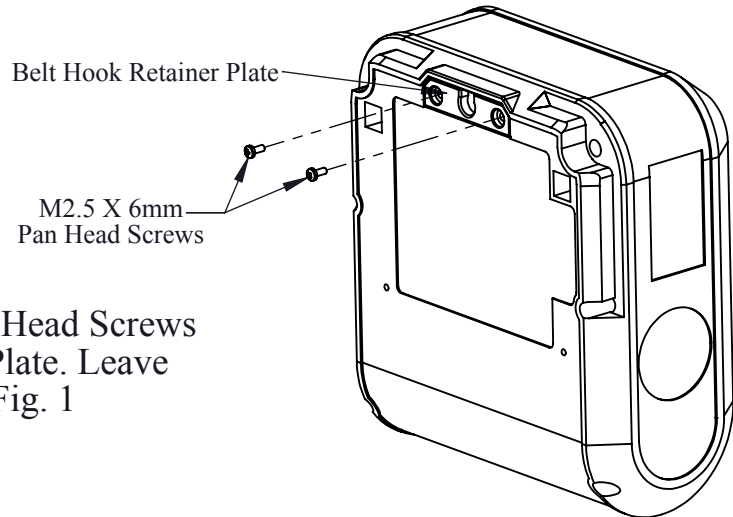

Fig. 1
1. Remove the two M2.5 X 6mm Pan Head Screws that retain the Belt Hook Retainer Plate. Leave Belt Hook Retainer Plate in place. Fig. 1